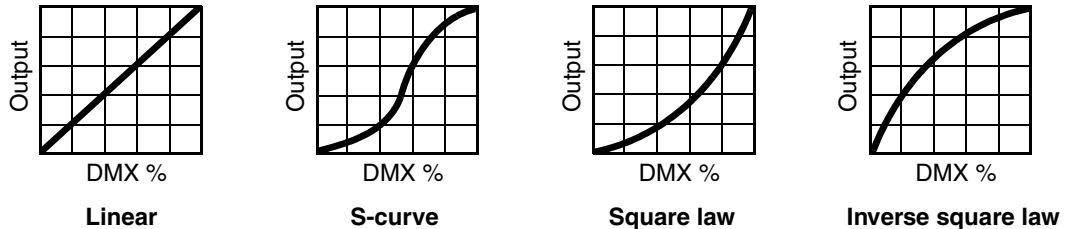

Figure 9: Dimming curve options
- **DIMMER CURVE** provides four dimming options that apply to both the Beam and the Aura light output (see Figure 9):